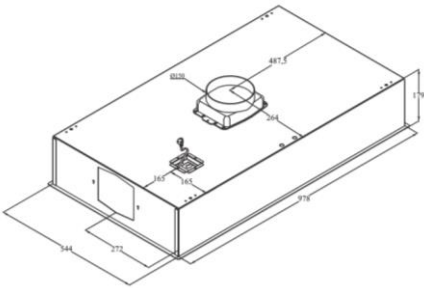

Fig 4
2. If using the top outlet install the 200/150mm spigot (Fig 4).